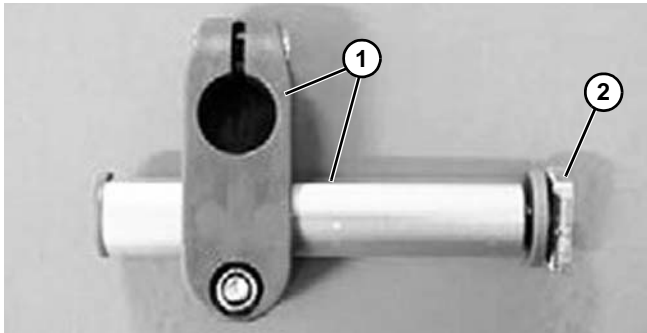

Figure 73
1. Fasten an adjustable guide rail bracket support (**Figure 73, item 1**) to the conveyor beam using T-bolt (**Figure 73, item 2**).